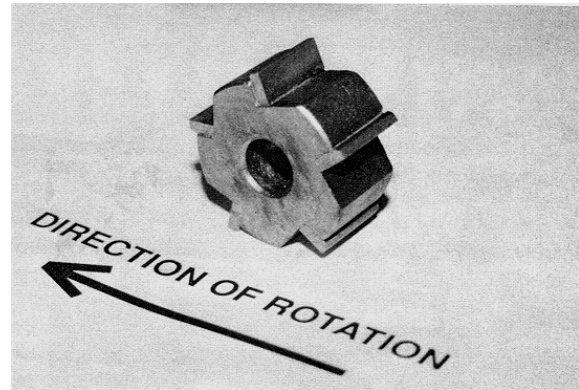

FIGURE 29
5) Star, beam and pentagonal flail are bi-directional in design and can be operated in both forward and reverse directions. Milling flails are one directional in design. This limitation requires the operator to install a loaded drum on the driveshaft with the tungsten carbide inserts facing the direction of rotation. FIGURE 29. Remove work surface material only by pulling the Floor Planer towards the operator after the drum has been lowered to the desired cutting depth. Never push the Floor Planer forward when the milling flails are in contact with the work surface material.